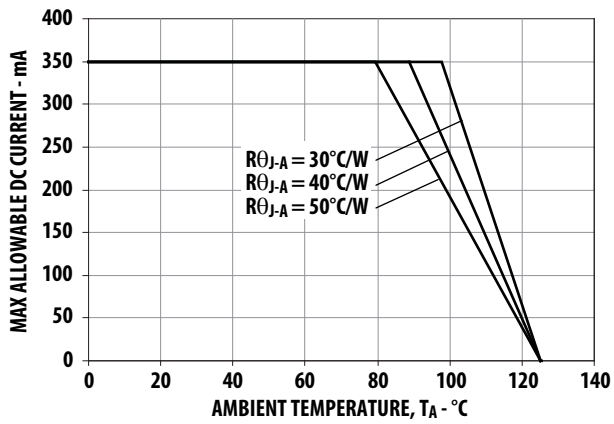

Figure 10. Maximum Forward Current vs. Ambient Temperature. Derated based on T_{JMAX} = 125°C, R_{θJ-A} = 30°C/W, 40°C/W and 50°C/W
1. Derate linearly based on Figure 10 for AllnGaP and Figure 22 for InGaN.